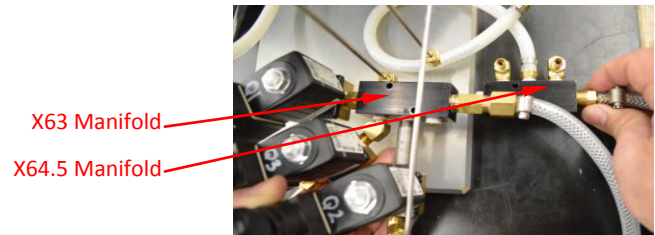

Figure 6
- c. Slide the new X64.5 assembly under the X63 manifold. See Figure 6.